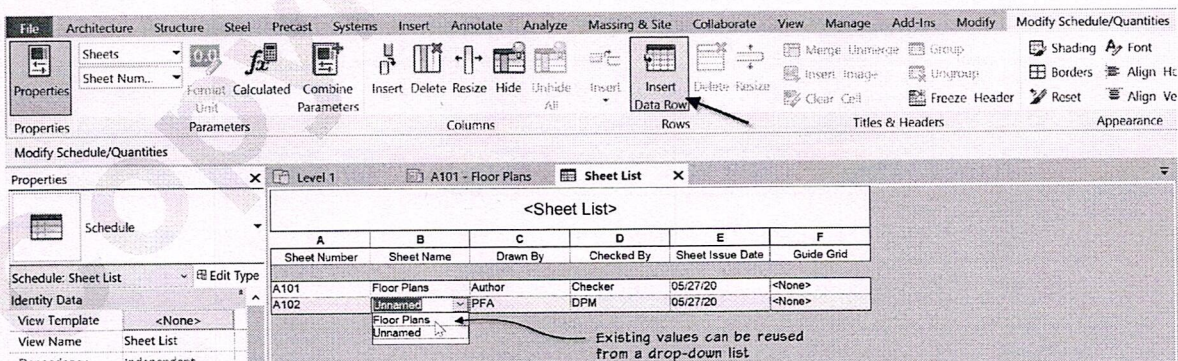

FIGURE 5.46 Create a drawing list and use Insert Data Row to add a placeholder sheet
- ⇒ For the name of A102, begin typing: **Floor Plans**. After the first letter or two, Revit will guess the name from your previously input values. You can keep typing, or just choose from the mini pop-up (see Figure 5.46).